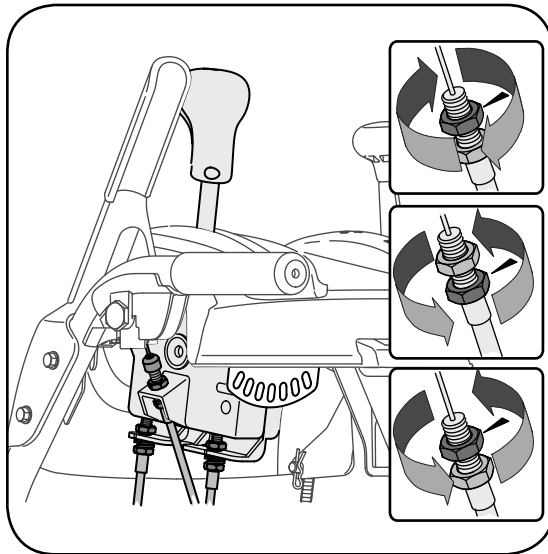

Figure 14
2. Adjust equally on both sides by working on both cables. See Figure 14.